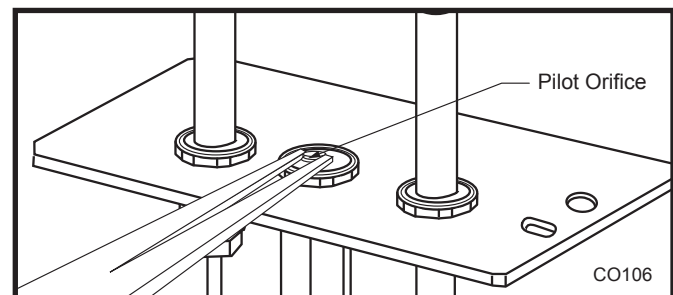

Fig. 87 Remove pilot orifice.
2. Remove pilot orifice with needlenose pliers. (Fig. 87)